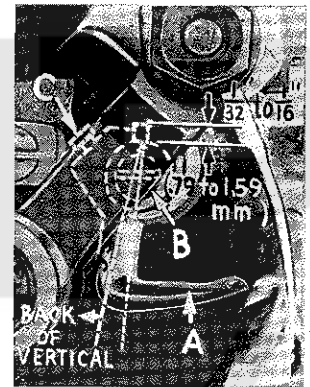

Fig. 8
Insert upper looper (A, Fig. 8) in its holder. Screw (B) holds upper looper in its holder, and permits it to be pushed in or out, or turned around its shank. Insert upper looper holder into upper looper shaft, if it is not already in place. Screw (C, Fig. 8) on clamp holds the upper looper holder in the shaft. Locate upper looper in its holder so that the shank extends $\frac{1}{32}$ to $\frac{1}{16}$ inch (.79 to 1.59 mm) beyond holder (Fig. 8), for Styles 39500 QA, QB, RS, SE, SG, TA and TD, and $\frac{1}{16}$ to $\frac{3}{32}$ inch (1.59 to 2.38 mm) for Styles 39500 QP, QY, RA, RF, RR, SF and TH.
When the upper looper is at the right end of its stroke, upper looper holder should be set to position upper looper shank slightly back of vertical on Styles 39500 QA, QB, QP, QY, RA, RF, RS, SE, SG, TA, TD and TH (Fig. 8). On Styles 39500 RR and SF upper looper holder should be set to position the upper looper shank about vertically.